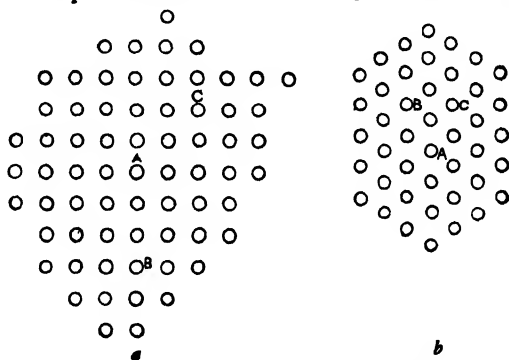

FIG. 15.—Two-dimensional lattices.
The patterns of molecules we find in solids are those which go on repeating themselves in every direction till we come to the edge of the crystal. A pattern which goes on repeating itself so that every point in it is surrounded by an exactly similar set of neighbouring points is called a space-lattice. The simplest sort of lattice to understand is a flat one as shown in Fig. 15. The point A and the points B and C have in Fig. 15 (a) four neighbours
0.56 cm. away and set at the corners of a square, and four neighbours 0.4 cm. away and set at the middles of the sides of the same square. The pattern can go on for ever in every direction and each point is indistinguishable from the next. Fig. 15 (b) shows another flat (two-dimensional) lattice. Here, every point has six neighbours 0.33 cm. away and equally spaced around it.
Now if a crystal had its atoms in patterns like these, it would only be one atom thick and you couldn't see it. The lattices in which the atoms of a crystal are arranged are three-dimensional, that is to say the pattern goes up and down, left and right and forwards and backwards as well. Fig. 16 gives a picture of one such lattice. It shows the pattern in which the atoms of common salt are arranged: this is like Fig. 15 (a) repeated like a pile of sandwiches.